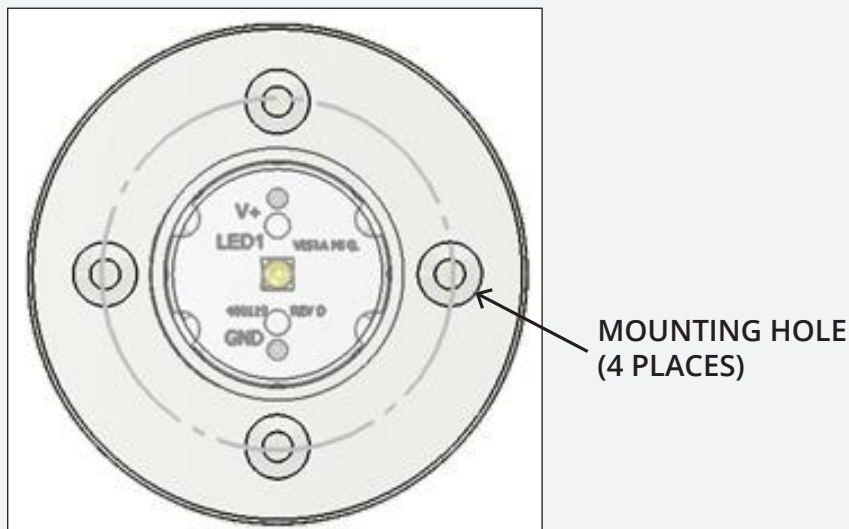

Figure 1: Orion front view, mounting hole locations
- Insert the light into the mounting hole – flush against the mounting surface and hold in place while installing #5 screws into all four-hole locations – see Figure 1. (**NOTE:** mounting hardware not included due to varying applications)